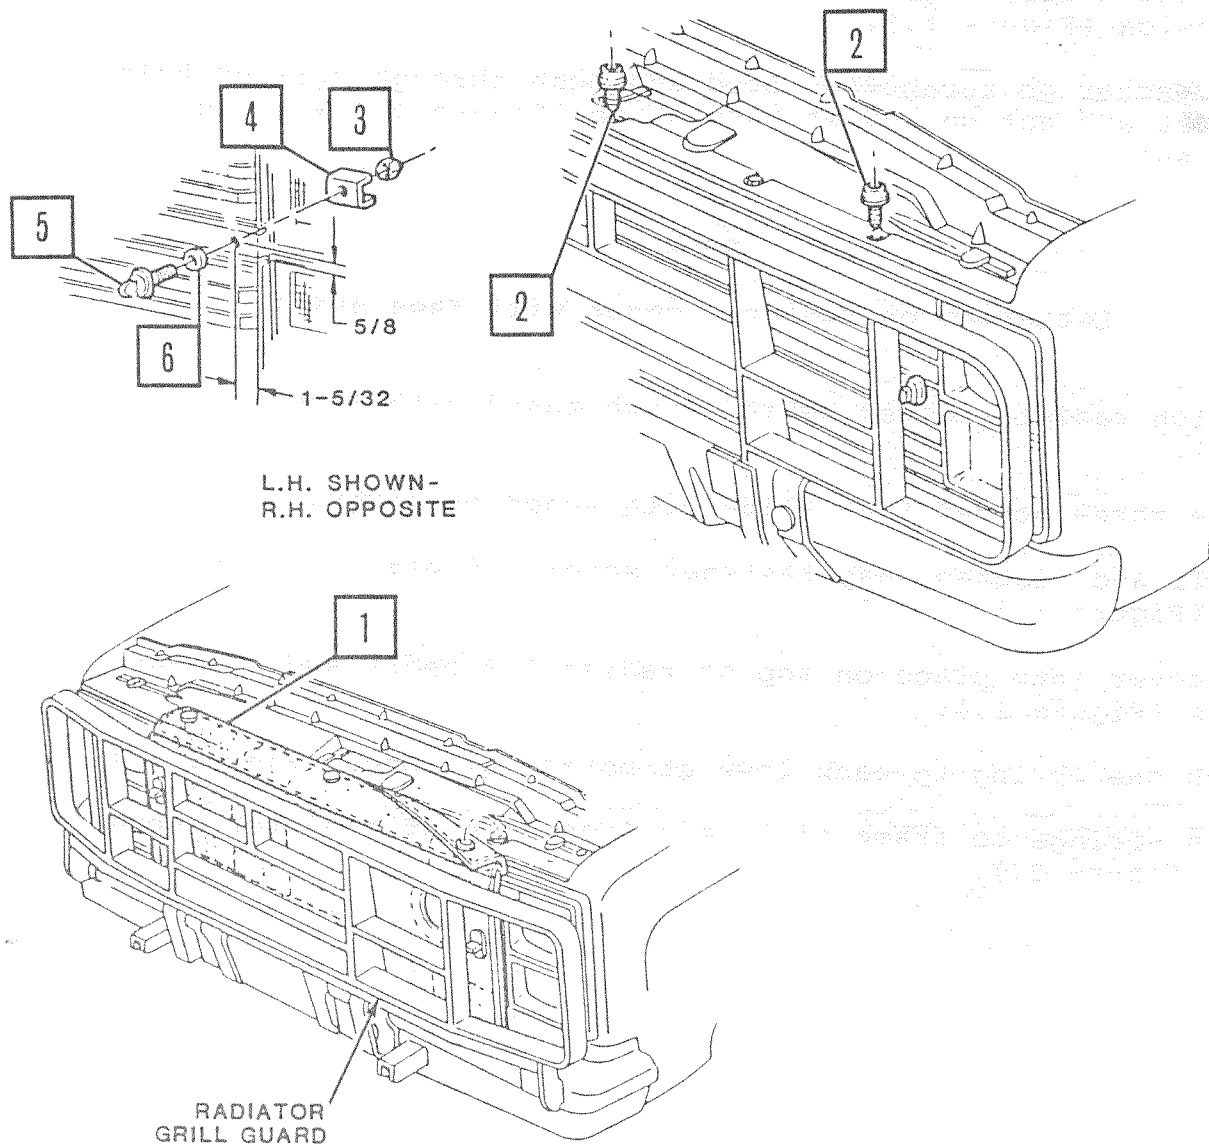

Figure 1.
2. Drill two holes in grill crossbar using a 1/4 inch drill bit and using dimension (Figure 1.).
3. Place washer on turnbutton stud and push through drilled holes. Place support and nut on end of turnbutton (Figure 1.) and tighten turnbutton nut.
4. Position radiator cover behind brush guard with loops, behind bumper (Figure 1.).
6. Install and tighten snap fastener screws in place of screw removed in step 5 (Figure 1.).
7. Snap cover into place on top of radiator support and in center turnbuttons (Figure 1.).